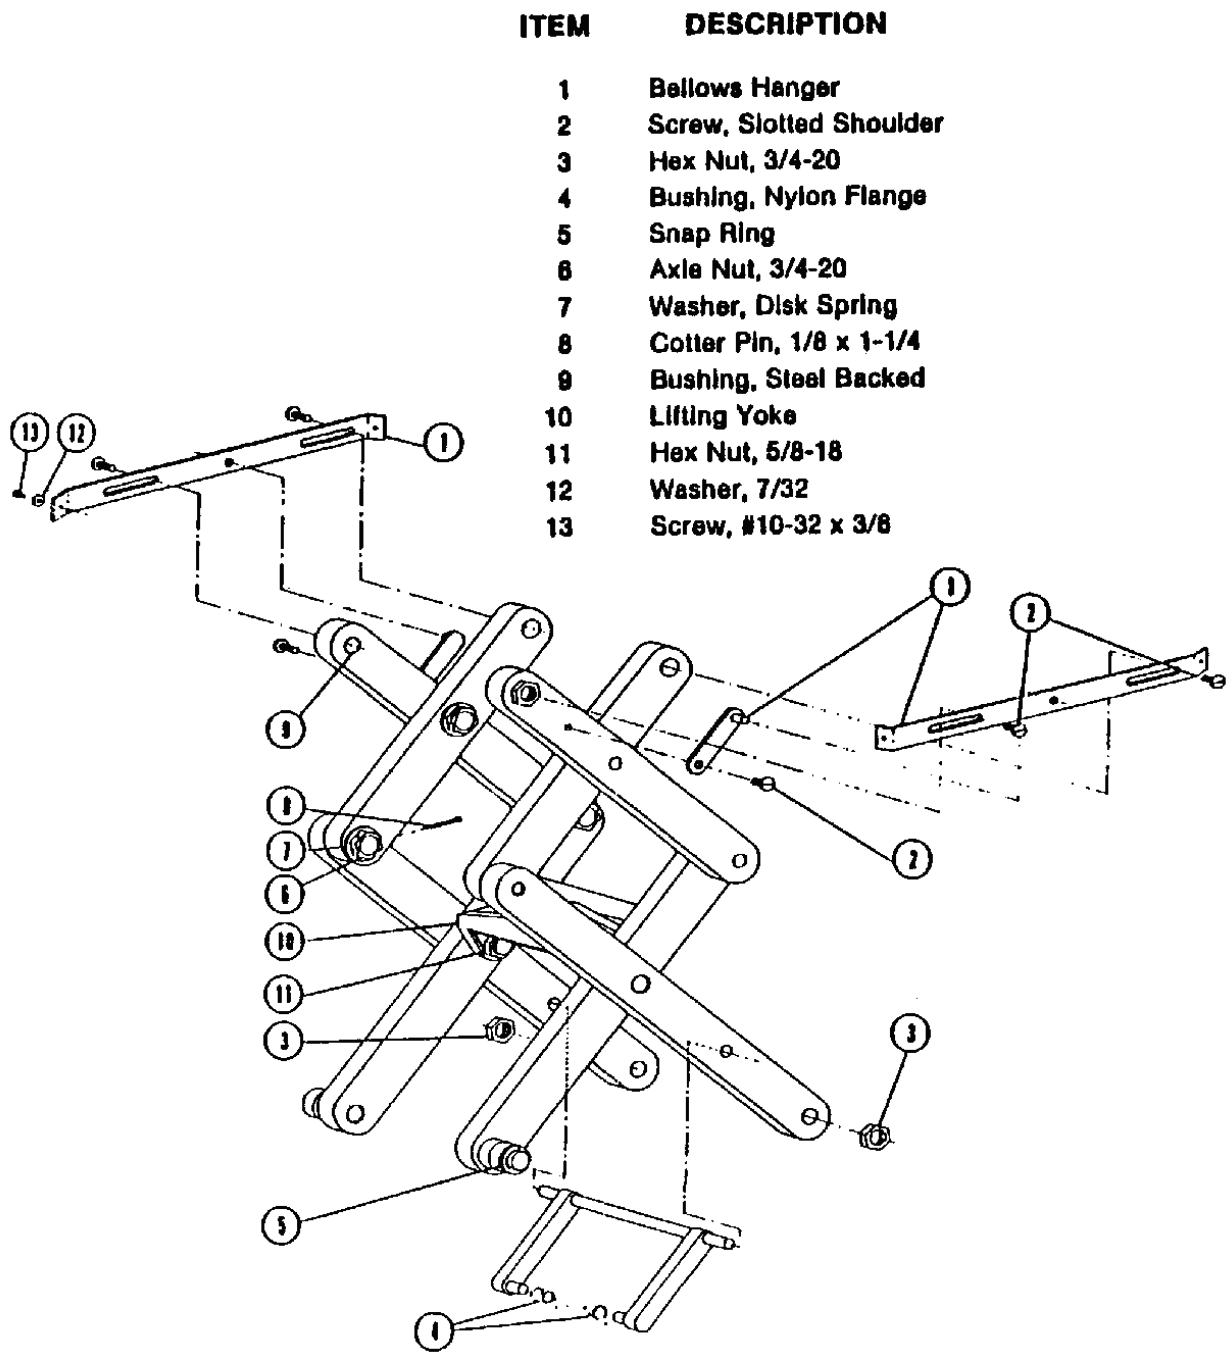

Figure 1-3. Pantograph arms.
(3) Lubricate the pantograph arms by extending them to their full length and applying white grease to each movable joint. Refer to figure 1-3.